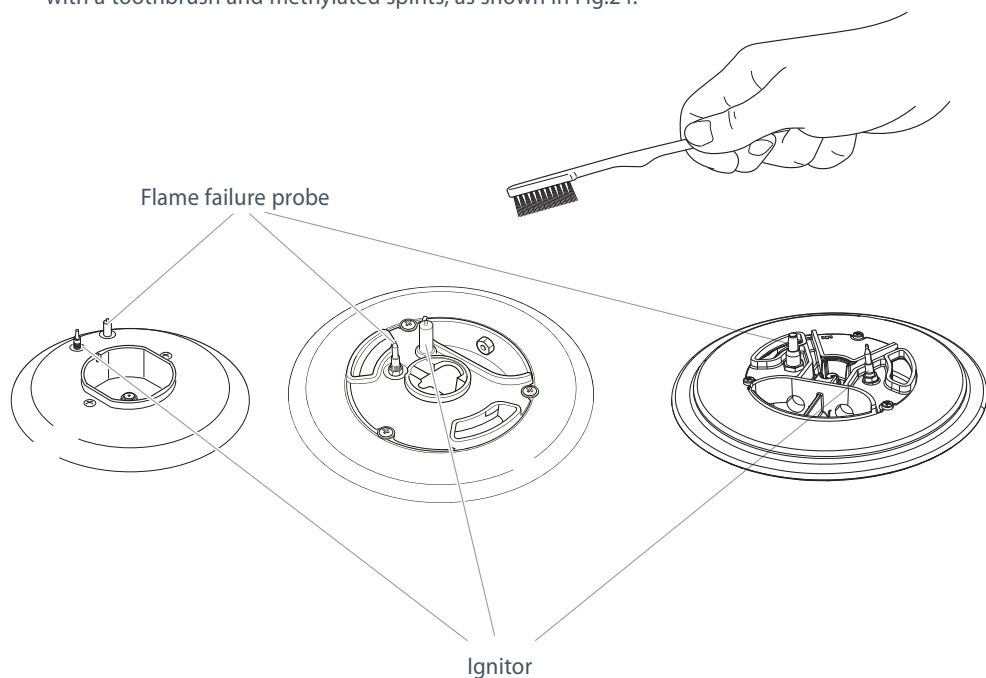

Fig. 24 Cleaning the probe and ignitor
- The ignitors are sparking. If the ignitors are not sparking, they may be dirty or wet. Clean them with a toothbrush and methylated spirits, as shown in Fig.24.
- Note: both the ignitor and probe must be very carefully cleaned using a toothbrush and methylated spirits (see Fig.24).
Note: both the ignitor and probe must be very carefully cleaned using a toothbrush and methylated spirits (see Fig.24).